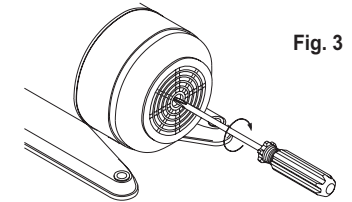

Fig. 3
3. For start up of the first operation or after long time inactivity, please place a screwdriver against the shaft at motor end and turn clockwise to see if rotor spins freely. (Fig. 3). If it is, you are free to run the pump.